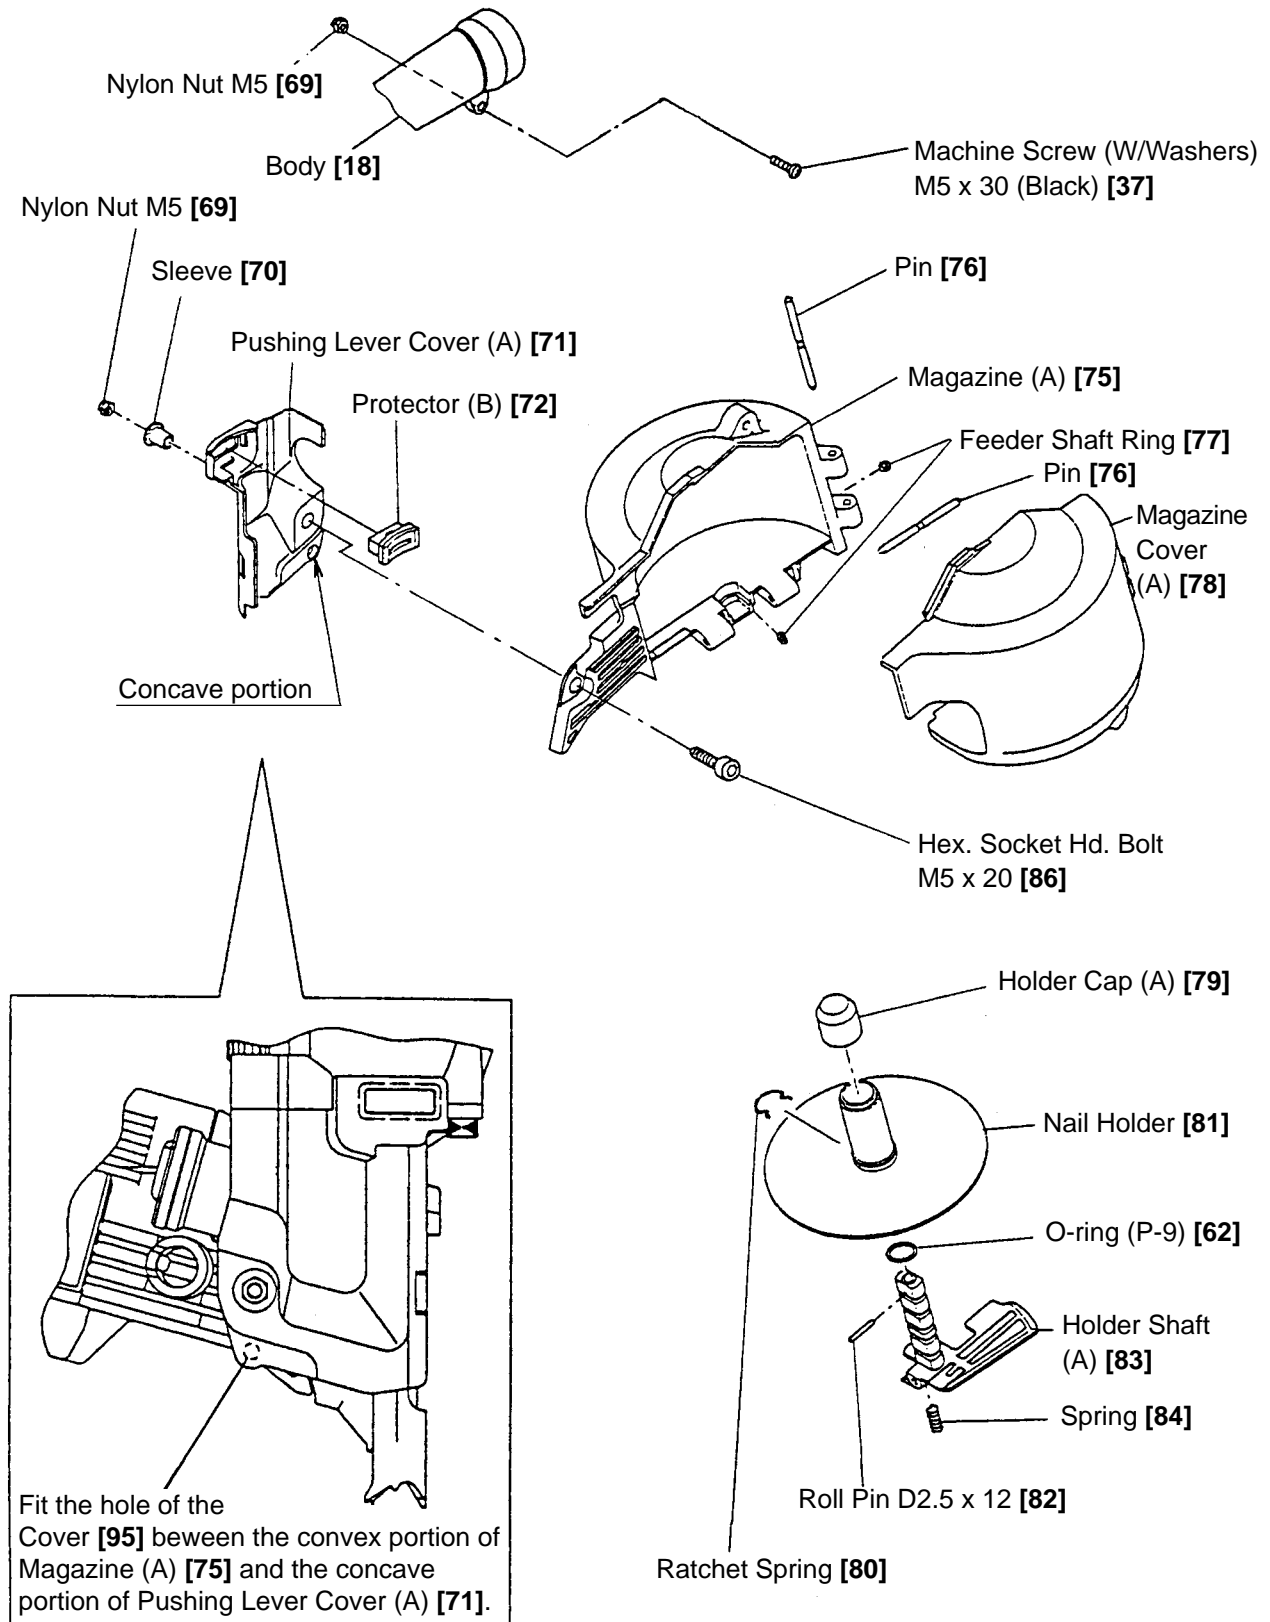

Fig. 19 Disassembly and reassembly of the magazine section
(a) Disassembly (See Fig. 19.)
- Fit the convex portions of Nail Stopper (A) [90] and Nail Stopper (B) [92] in the Stopper Spring (A) [91] and Stopper Spring (B) [93] securely. Be careful not to mistake Stopper Spring (A) [91] for Stopper Spring (B) [93].
- After reassembly, push Nail Stopper (A) [90] and Nail Stopper (B) [92] with fingers to check that they smoothly return to position.
- Bend the tip of the Cover [95] and engage it with the convex portion of Magazine (A) [75]. (See Fig. 19.)